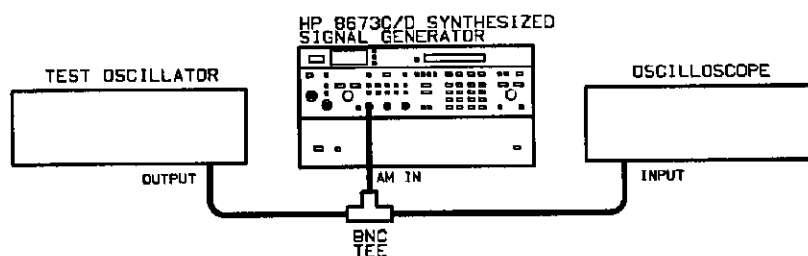

Figure 8-48. AM Check Test Setup
24. Set the Signal Generator for AM 100% and connect the test equipment as shown in figure 8-48.